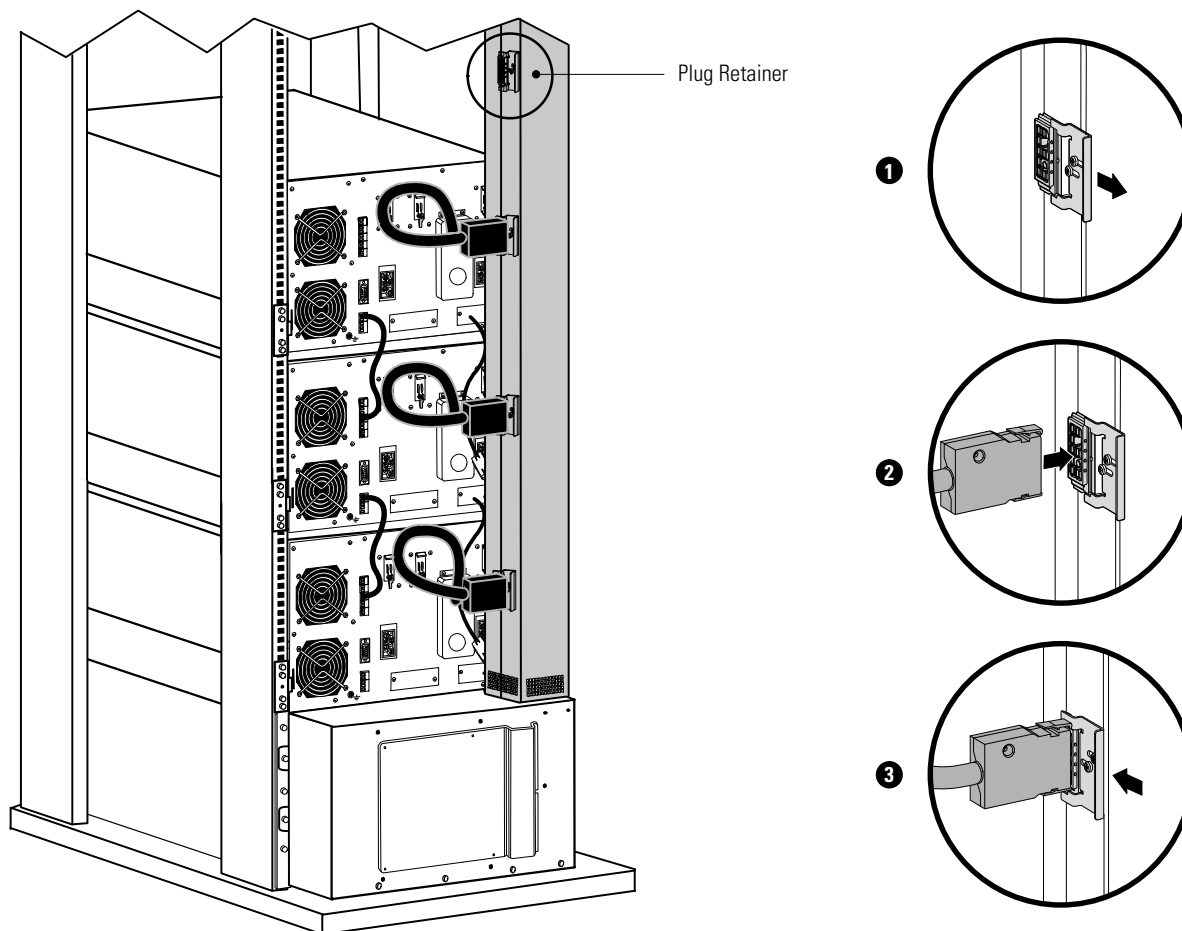

Figure 63. Connecting UPSs to the BladeUPS Bar (Bottom Entry Shown)
20. Connect the parallel input cord from each paralleled UPS, as shown in Figure 63: